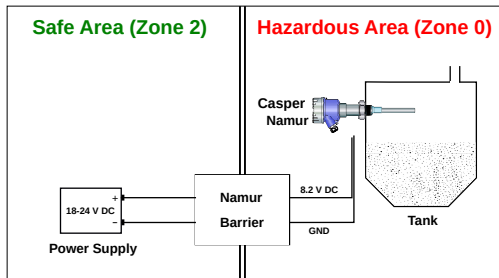

Figure 46: Calibration at safe zone
- Before Installing the device, ensure that the calibration process has been already carried out in safe area (Zone 2) then install the instrument in hazardous area as shown in Figure 46